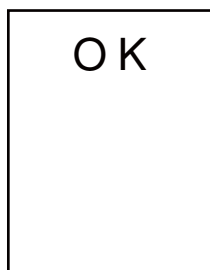

Fig.14
- (3) When the aircraft is stopped at the correct stopping position, a message "OK" will be displayed on the screen in several seconds. (Fig.14)